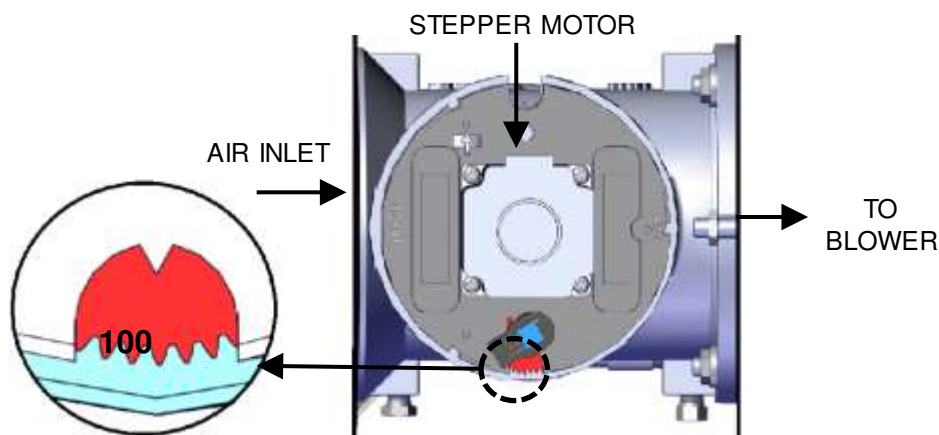

Figure 3-2a: BMK750 & 1000 Air/Fuel Valve in Purge Position
- b. The Air/Fuel Valve rotates to the full-open purge position and closes the purge position switch. The dial on the Air/Fuel Valve (Figure 3-2a and 3-2b) will read **100** to indicate that it is full-open (100%).